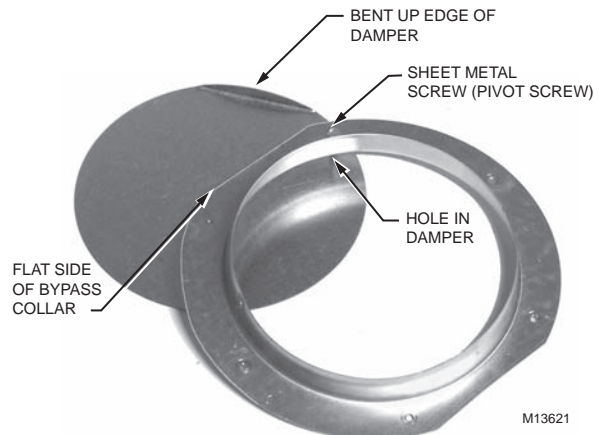

Fig. 11. Installing Optional Damper.
5. If you are installing the Optional Damper, place a #8 X 3/4 in. Sheet Metal Screw through the Bypass Collar and Damper, as shown in Figure 11.